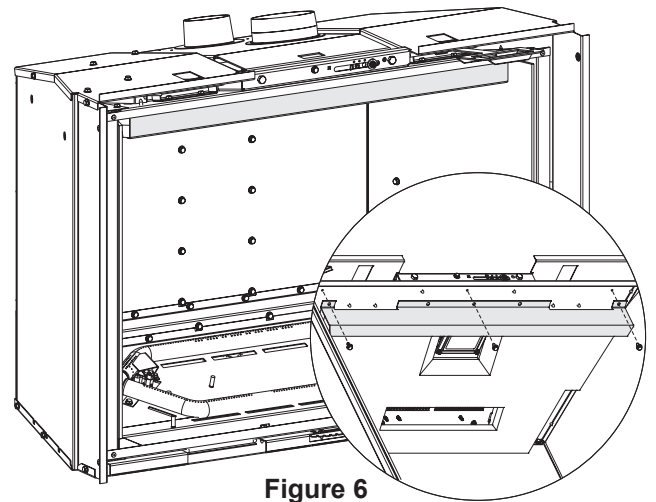

**Figure 4**
5. Place top ceramic fiber top liner above rear liner bracket with smooth side down. Position ceramic fiber top liner around light. Hold liner in place. **See Figure 4.**